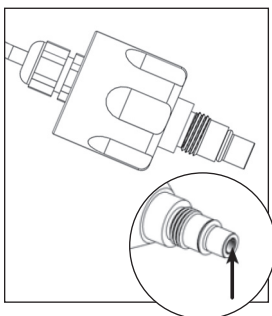
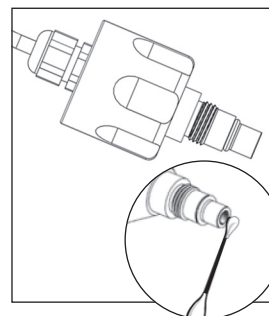

Figure 4A
Figure 4D
2. Once the sensor is free from the reactor chamber, clean the quartz window (Figure 4A) with a commercial scale remover (CLR or Lime-A-Way) and a lint free cotton swab (Figure 4D). Follow all manufacturer’s instructions regarding the cleaning fluid used. Do not use an abrasive cleaner on the sensor window. Scratching of the sensor window will void any manufacturer’s warranty on this item.